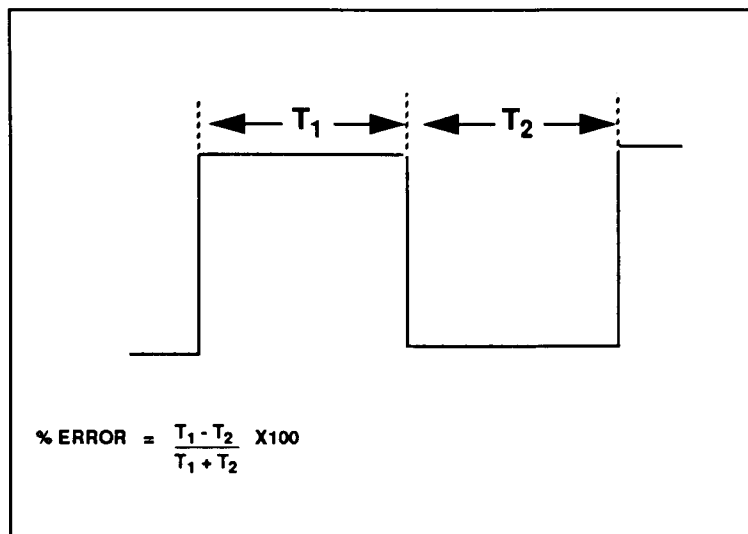

Figure 1. Symmetry waveform.
- (1) Connect oscilloscope to **FUNCTION OUT** using 50  $\Omega$  feedthrough termination.
- (2) Turn frequency dial to **.02** and adjust **ATTENUATION VERNIER** control for a 5 V p-p indication on oscilloscope.
- (3) Adjust oscilloscope to display 1 cycle at 5 major divisions (horizontal).
- (4) Using a shorting lead, alternately short and open **VCG IN** terminal while observing oscilloscope display. If waveform shifts horizontally, perform **b** (1) below.
- (5) Disconnect oscilloscope from TI and connect TI to frequency counter.
- (6) Set **FREQ/PERIOD MULTI (Hz/s)** switch to **100K** and **VERNIER** control fully ccw. If frequency counter does not indicate 5 ms or greater, perform **b** (2) below.
- (7) Adjust frequency counter to measure symmetry of square wave. If  $T_1$  is not within  $\pm 0.5$  percent of  $T_2$  (fig. 1), perform **b** (3) and (4) below.
- (8) Position controls as listed in (a) through (c) below:
(9) Measure symmetry of square wave. If  $T_1$  is not within  $\pm 0.5$  percent of  $T_2$  (fig. 1), perform **b** (5) below.